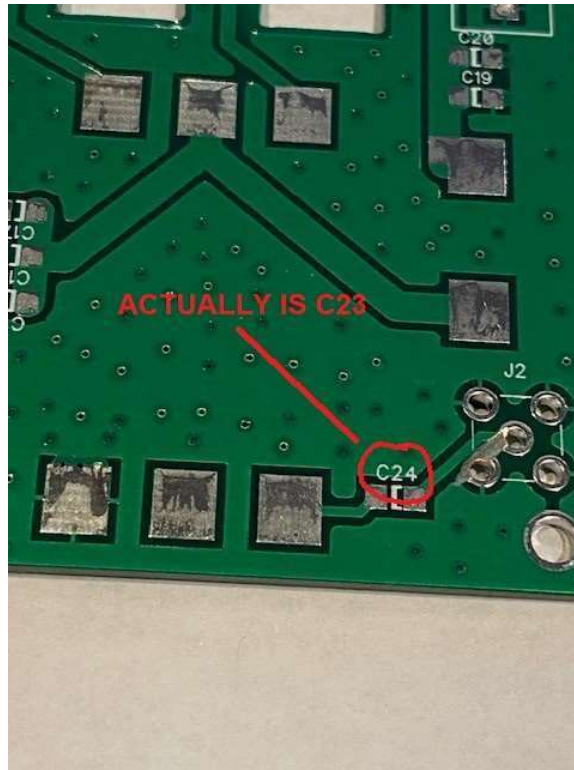

Figure 5. C24 Mislabeled. This Is Actually C23.
4. Place all chip capacitors and resistors on the board. Use the schematic placement if there are any issues reading the part legends on the PCB. **NOTE that C23 is mis-marked on V2.3 and earlier PCBs as C24 (see Figure 5).**